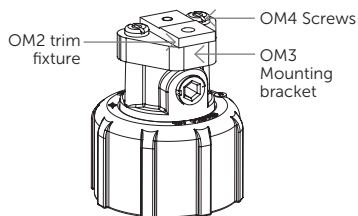

Figure 6.
24. For Omron kit only, install mounting bracket (OM3) using #8-32 screws (OM4). (See Figure 6.)
1. For Omron kit only, place smaller hole of the trim fixture (OM2) around the indicator as shown in Figure 6, and use a blade (S10) to trim the indicator flush with the thinner portion of the trim fixture.